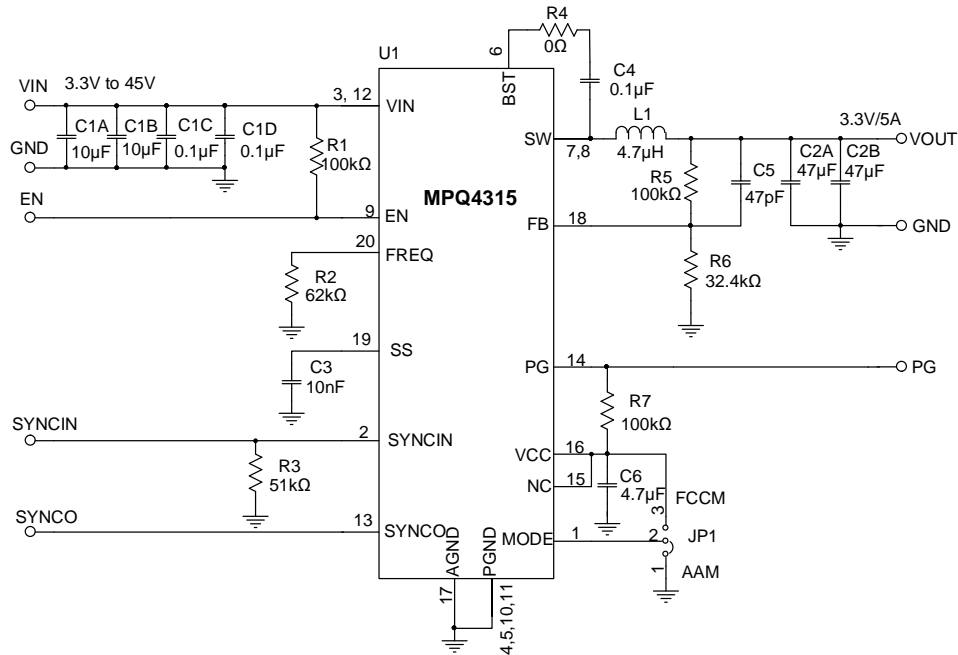

Figure 11: Typical Application Circuit ($V_{OUT} = 3.3V$, $f_{sw} = 470kHz$)
9) The recommended PCB layout is based on Figure 11.